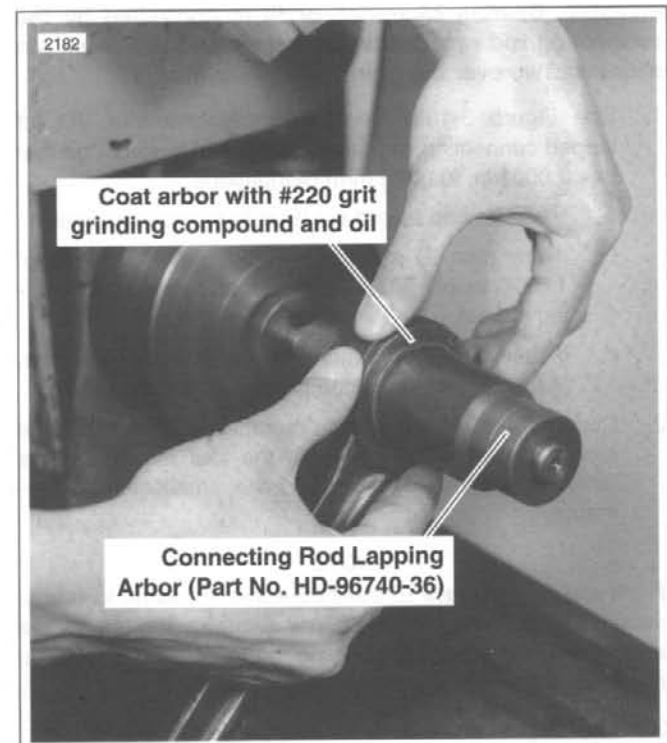

Figure 3-101. Lapping Connecting Rod Races
2. See Figure 3-101. Clamp lapping arbor into lathe chuck. Carefully load lap with #220 grit grinding compound, mixed with oil. Adjust lathe to turn at approximately 150-200 RPM.